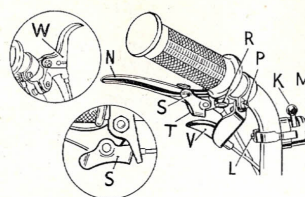

FIG. 2.
Headlight Switch:—The "on/off" switch (K) Fig. 2, can be moved after slackening screw (L).
Rear Brake Lever:—The position of this lever (N) Fig. 2, can be altered following the slackening of the screw (P). Tighten securely after adjustment. Grip the lever to operate the brake. The looseness of the lever is adjusted by rotation of the screw (R), after releasing its locknut.
Parking:—Whenever your Ariel 3 is left unattended, apply the rear brake and lock in position by means of the latch (S) Fig. 2. To release, grip the brake lever, withdraw the latch, and secure it in the "safe" position at (T).
Carburettor Air Control (or "Choke"):—The trigger-type lever (V) Fig. 2, operates the shutter at the mouth of the carburettor and can be repositioned only in conjunction with the rear brake lever. This control provides a rich mixture for cold starting purposes only. Cable adjustment is described on page 12, and should be such that a small amount of slackness is present. Note:—The trigger lever (W) is sometimes provided as an alternative to lever (V).
To Start Off:—Open the fuel tap (C) Fig. 4, and release the parking brake. Rotate the twist grip control to its limit in the direction of the arrow (G) Fig. 1, in order to operate the decompressor, and then pedal the machine in the normal manner. As soon as it is moving at a moderate speed, grip the air control lever (V) or (W), as the case may be, Fig. 2, and turn the twist grip in the direction of the arrow (D) Fig. 1, until the decompressor is inoperative and the throttle is partially opened, when the engine will start. Immediately the engine is running, release the air control lever, and cease pedalling. **NOTE:**—Excessive use of the air control may cause quantities of neat petrol to collect in the crankcase, making starting very difficult. If the engine is warm, do not operate the air control lever.